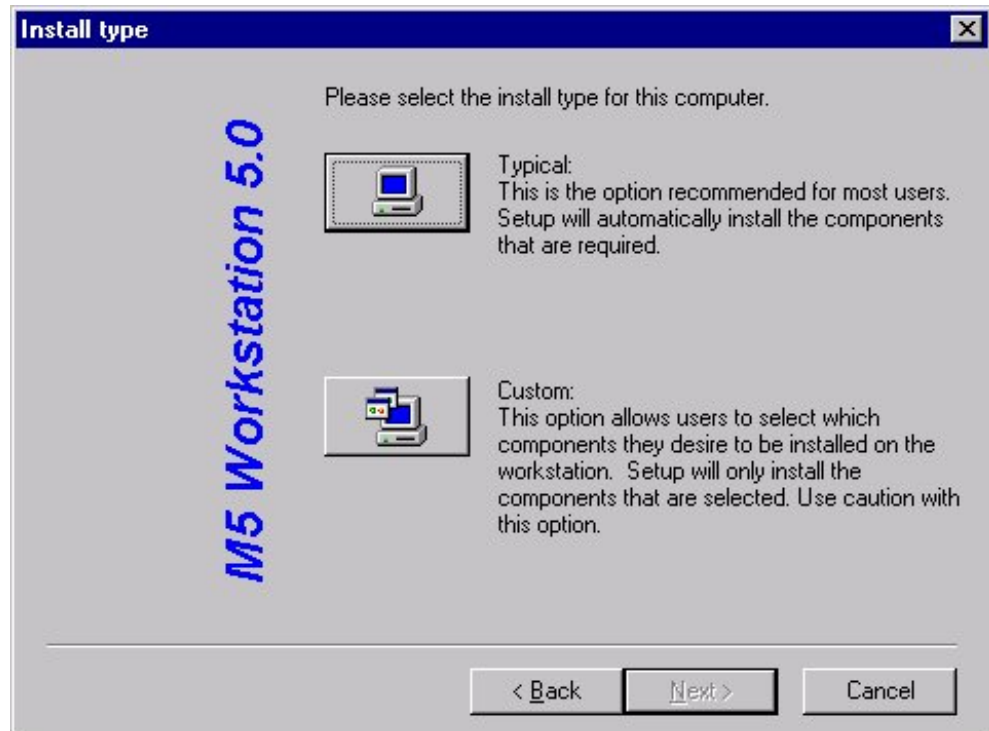

Figure 4: Install Type Dialog Box
7. Click Next to continue or browse to select an alternate location. The Install type dialog box appears (Figure 4).
6. Click Next to continue, or browse to select an alternate location. The Install type dialog box appears (Figure 4).
6. Click Next to continue. The Install type dialog box appears (Figure 4).
3. From the Install type screen (Figure 4), choose Custom.